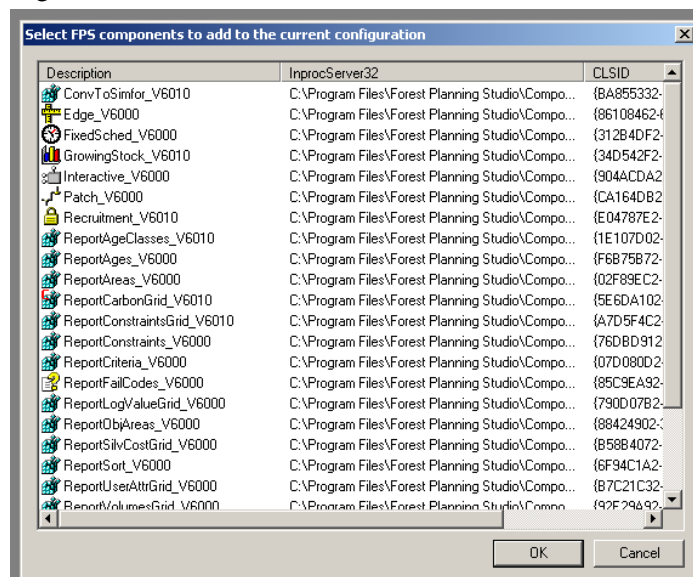

Figure 10: FPS components to add to current configuration window
- 2.2.2.4 With the cursor in the *Minimum* configuration window right-click. From the drop-down menu select *Append*. The *Select FPS Components to add to the current configuration* window should appear as in Figure 10.